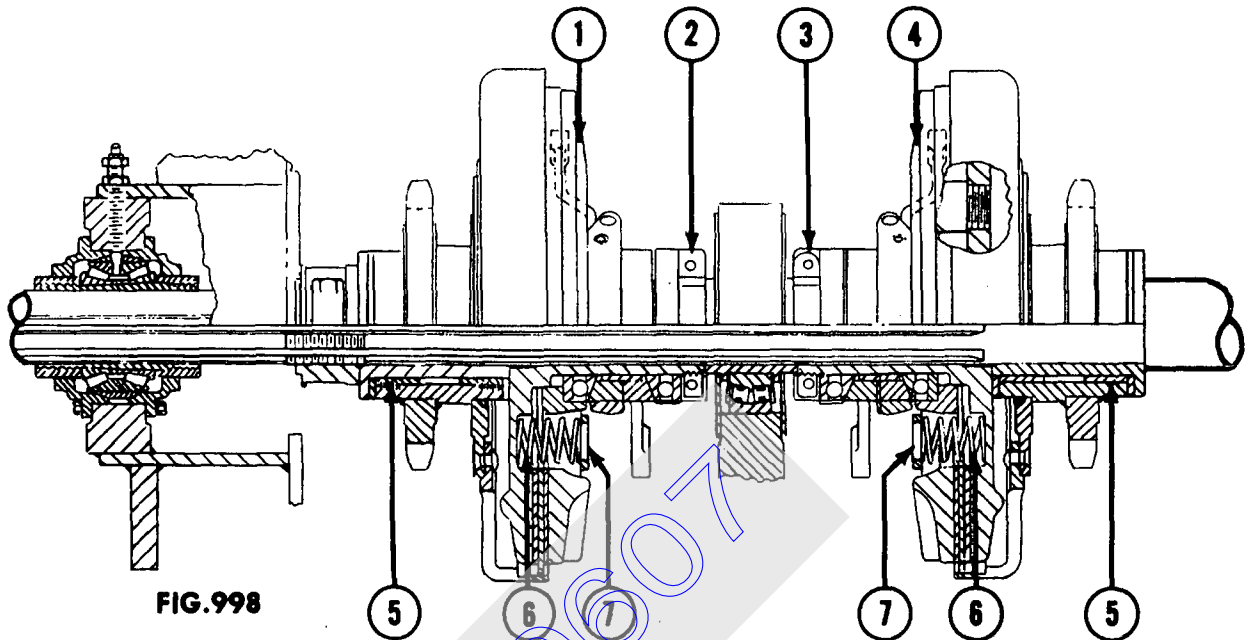

FIG. 998
To adjust for lining wear, adjust nuts (2) and (3) — Figure 998.
Remove spring covers (7) — Figure 998, and springs